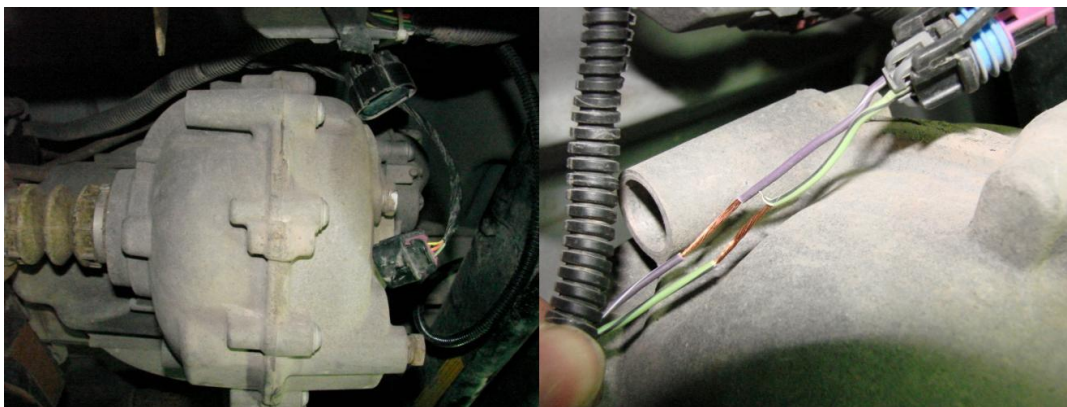
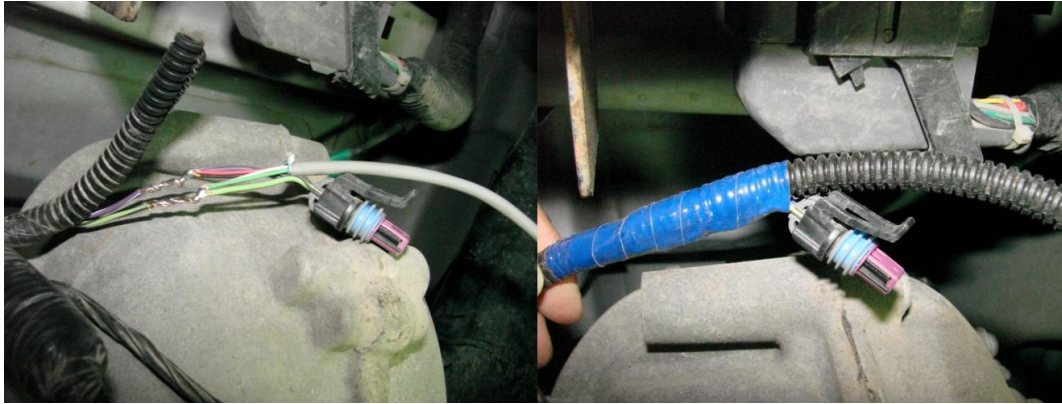

Figure 17 - Chevy Speed Sensor Harness
Figure 18 - Chevy Speed Sensor Wiring
3. The Chevy speed signalling wires are located in the vehicles harness on the top of transmission as shown in Figure 17 below. This vehicle harness should be a simple 2-wire cable.
5. Remove 1 inch of insulation from each of the vehicles speed sensor wires, being careful not to cut any of the conductors, as shown in Figure 17. Twist one of the speed cable wires around the exposed transmission harness wire and solder together as shown in Figure 18 below.
7. Cover the entire bundle with loom and electrical tape as shown in Figure 18, then reconnect the connector.